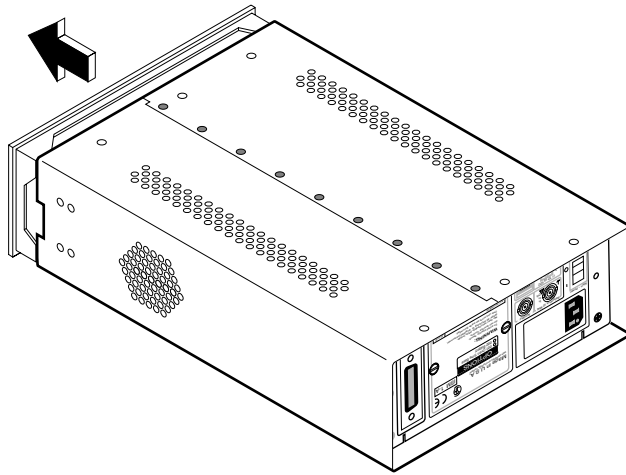

Figure 3-9. Removing the Shroud
- 6 With the Counter resting upside-down on your work surface, grip the front edge of the shroud in the cutout of the front bezel with the fingers of one hand, and push the Counter's rear panel toward the front of the shroud with your other hand. Reduce the amount of pressure you apply to the rear panel when the shroud begins to slide off the Counter, and carefully remove the shroud the rest of the way (see Figure 3-9).